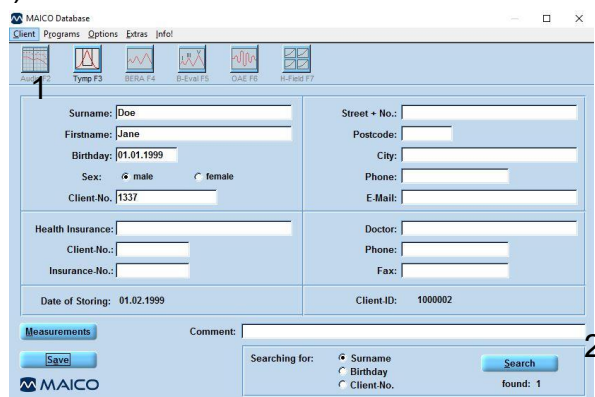

Figure 29
Use the **Search** button to choose an existing client. This will display a list of clients which are already in the database. Narrow the search by typing information into one of the demographic fields (1) and then selecting a search category (2): **Surname**, **Birthday**, or **Client-No.** (Figure 29).